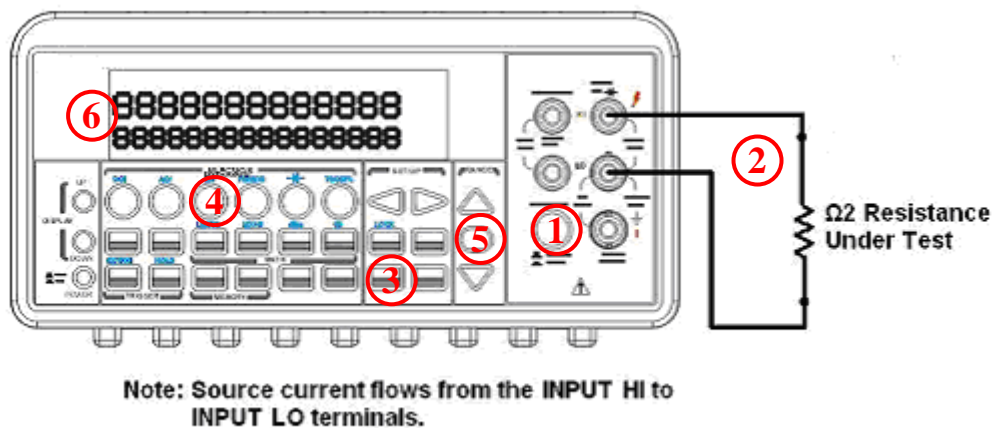
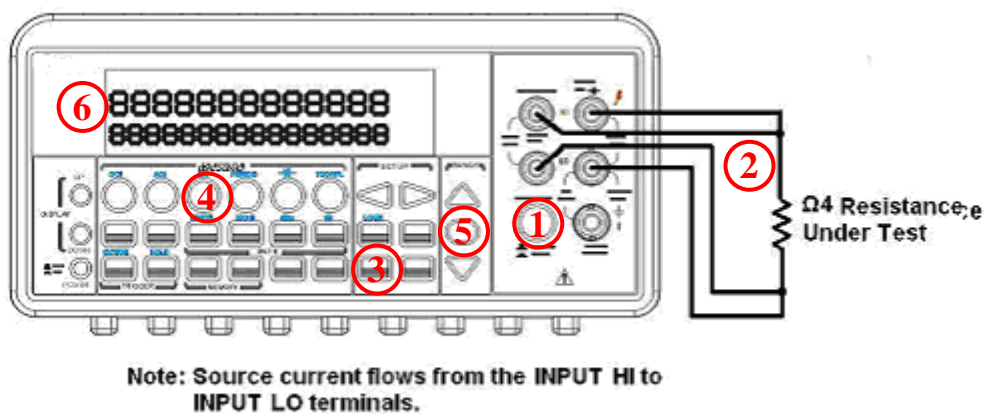

Figure 3-6
Figure 3-7
The ranges for resistance measurement are 100 Ω , 1K Ω , 10k Ω , 100k Ω , 1M Ω , 10M Ω , and 100M Ω , with a sensitivity of 100 $\mu\Omega$ (on 100 Ω range.) There are two modes for measuring the resistance: 2-wire mode as shown in **Figure 3-6** and 4-wire mode as shown in **Figure 3-7**. With 4-wire mode, the test current is measured from the test resistance through one pair of the test leads, and the test voltage across the resistance under test is measured from another set of the test leads. As a result, the 4-wire mode is more accurate for low resistance measurements. The trade off is the longer settling time for 4-wire mode.
- ① Selects input signal connections on front or rear panel.
- ② Connect the test leads to the terminals as shown in **Figure 3-6** (2-wire) or **Figure 3-7** (4-wire).
- ③ Set RESOLUTION (Refer to 3.1.3) or skip this step if default is to be used.
- ④ Press $\Omega 2$ button for 2-wire measurement or SHIFT + $\Omega 4(\Omega 2)$ buttons for 4-wire measurement.
- ⑤ Select the auto-range function by pressing AUTO button on the front panel or use \triangle and ∇ buttons to select the desired range.
- ⑥ Connect test leads to your source signal and observe the reading shown on the display. If the input signal is greater than the allowed range, an overflow message "OVLD" will be displayed.